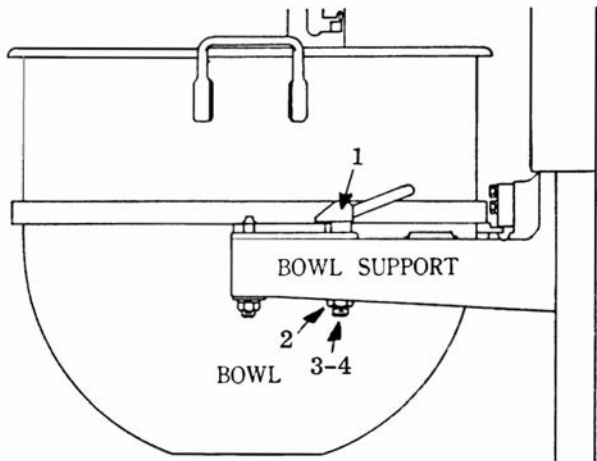

Fig 7-3
A. The tension of the bowl clamps (1, Fig. 7-3) is controlled by a spring washer (2, Fig. 7-3) and locknuts (3-4, Fig. 7-3). The tension of the bowl clamp should be tight enough to maintain its position while engaged.